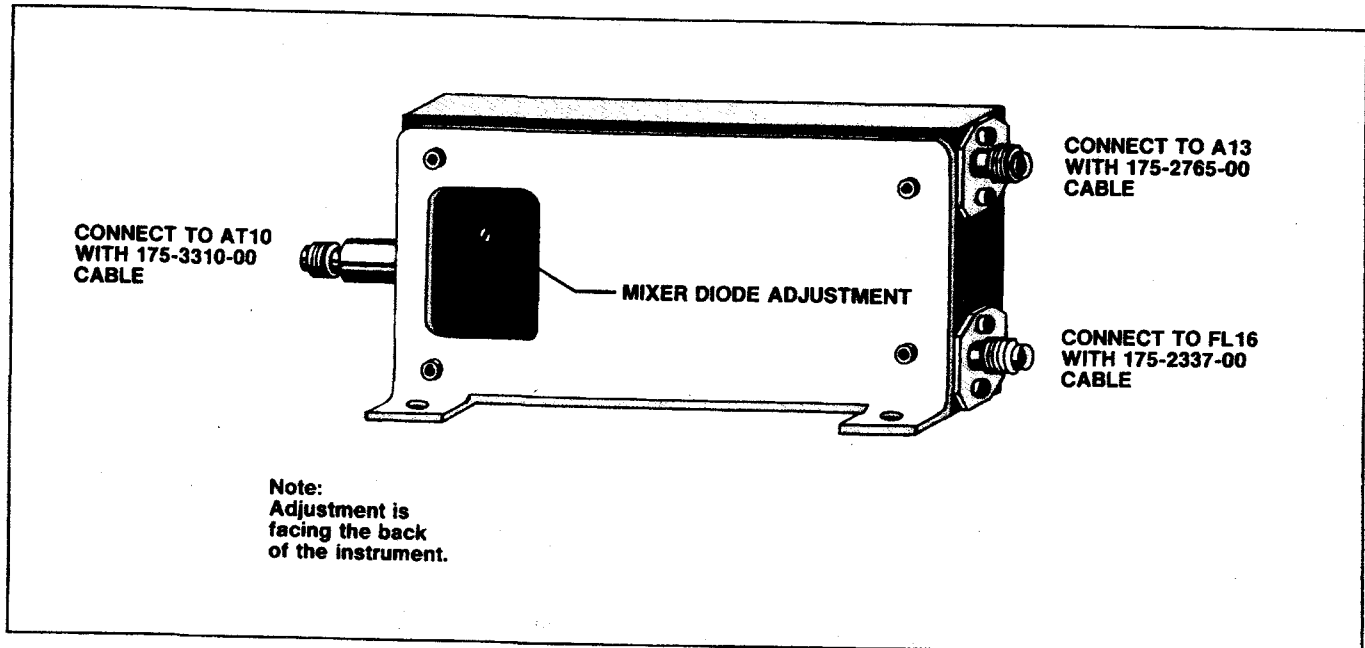

Figure 6-26. First Converter setup for adjustment.
a. Remove the 1st Converter assembly from the Spectrum Analyzer. Connect the assembly to the Spectrum Analyzer as shown in Figure 6-26.